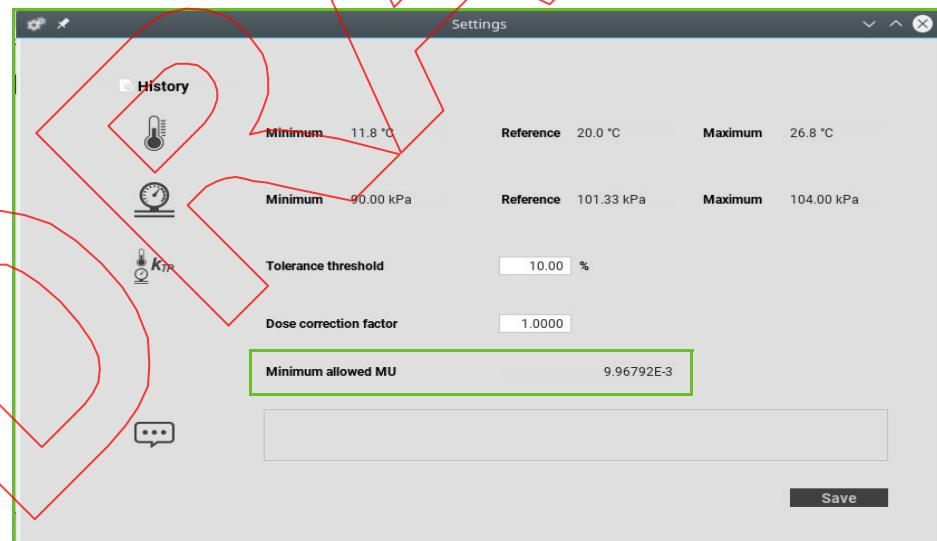

Figure B-6. Dosimetry Manager: Determining the Minimum Allowed MU
2. The computed Meterset parameters (i.e. the **Minimum allowed MUs**) will be updated accordingly in the Dosimetry Manager **Settings** tab (Figure B-6).